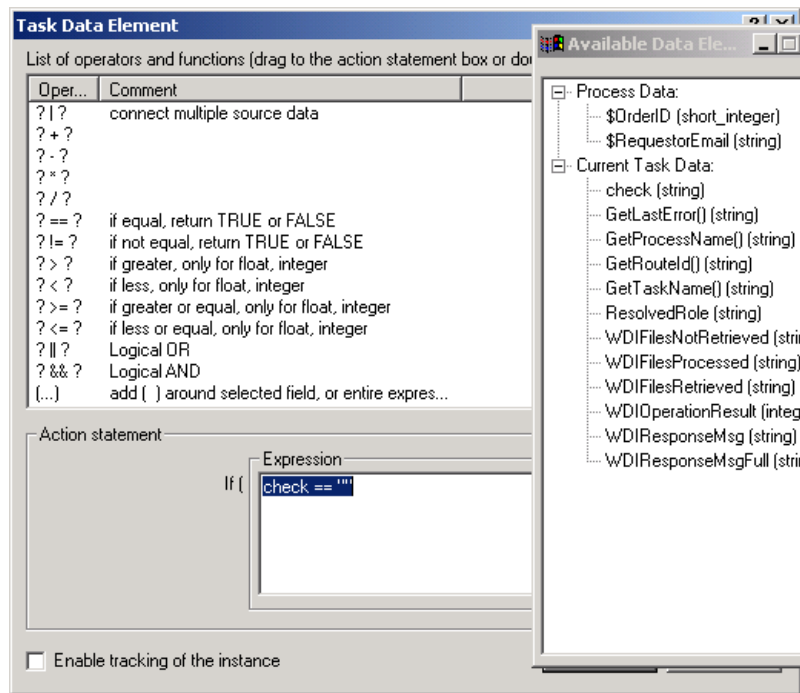

Figure 28-31. Click the Check data element and drag it to the Expression window.
- 3 Double-click on the ? == ? operation from the list of operations. Now select the second ? and type double-quotes (""). Compare your work to Figure 28-31, below.